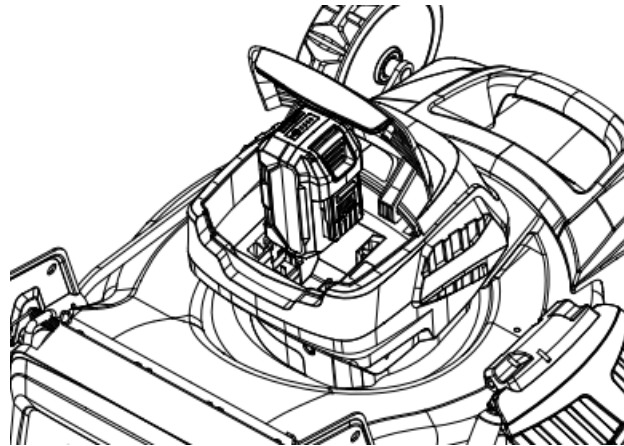

Fig.6B
4. Remove the battery pack from the product. (Fig.6B)